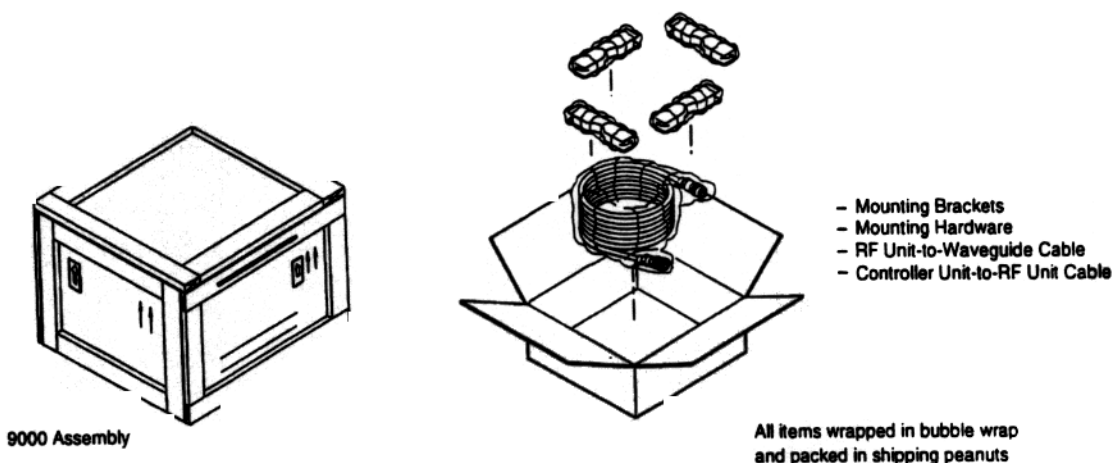

Figure 1-1. Model 9000 Shipping Containers
- 1.202 Larus packages the Model 9000 for shipment "per end," where one set of shipping containers contains a single Controller/Radio Frequency (RF) assembly plus hardware and cables. Equipment components are packed separately in wood and corrugated shipping containers and cushioned by preformed shock absorbing packing material (refer to Figure 1-1). Unpack the equipment from the shipping containers with care; **do not destroy the containers to open them!** Larus recommends saving all packing materials for reuse if it is necessary to reship the equipment.